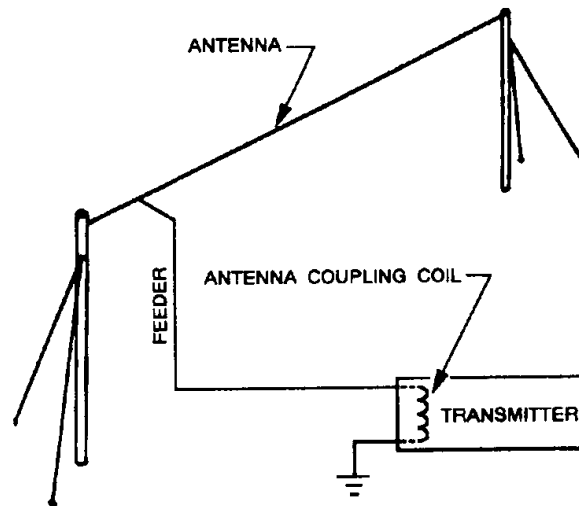

Figure 4-2.—Typical antenna system.
A complete antenna system consists of three parts: (1) The COUPLING DEVICE, (2) the FEEDER, and (3) the ANTENNA, as shown in figure 4-2. The coupling device (coupling coil) connects the transmitter to the feeder. The feeder is a transmission line that carries energy to the antenna. The antenna radiates this energy into space.